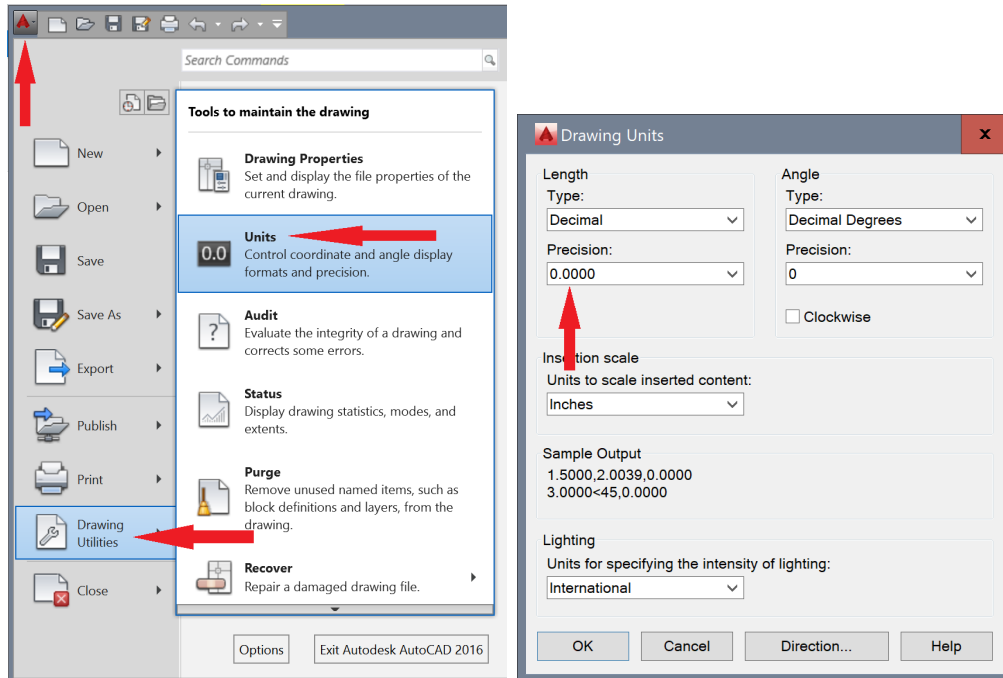

Figure 1.26: Increase AutoCAD Precision
2. Open AutoCAD, increase the precision by clicking the top left red AutoCAD sign, select “Drawing Utilities → Units” and increase the precision to 4 decimal points, as shown in fig 1.26 below.